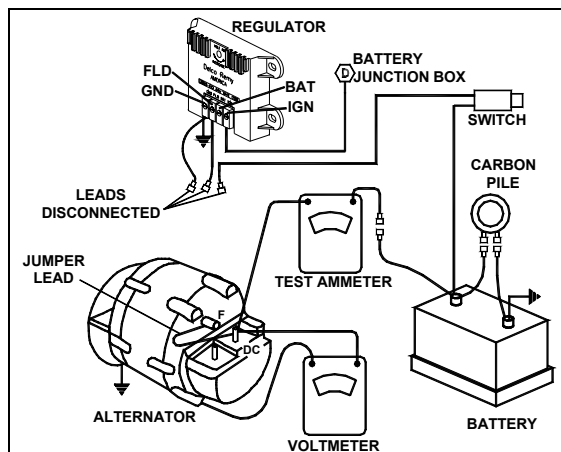

FIGURE 45: REGULATOR VOLTAGE TEST (UNDERCHARGED BATTERY) 06417
6. See figure 45 for wiring connections.